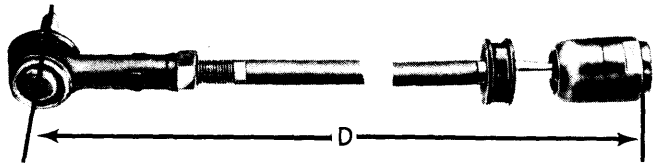

Fig. 4 Adjustment of Replacement Tie Rod (Part No. 171 419 804)
3) If replacing the non-adjustable left tie rod with adjustable type, adjust tie rod length "D" to 14.92" (379 mm) (see Fig. 4). Then install as described in step 1).